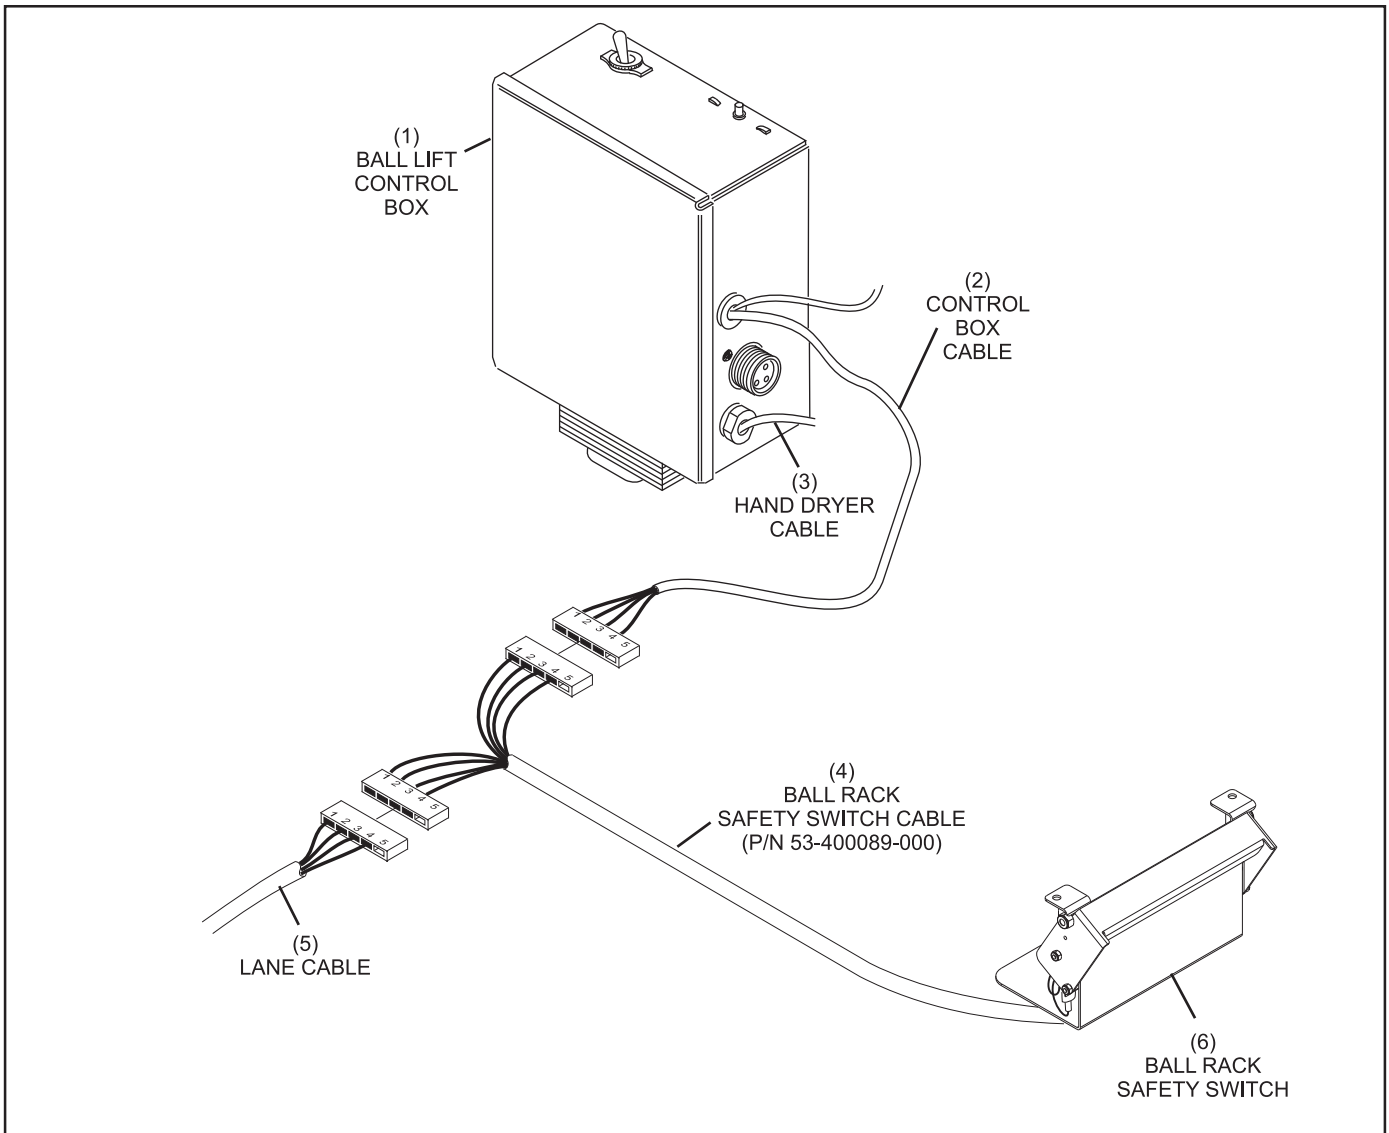

Figure 23. Connect Safety Switch
- Install the safety switch, (P/N 53-400089-000) by connecting it to the control box and the automatic pinsetter. Refer to *Figure 23*.